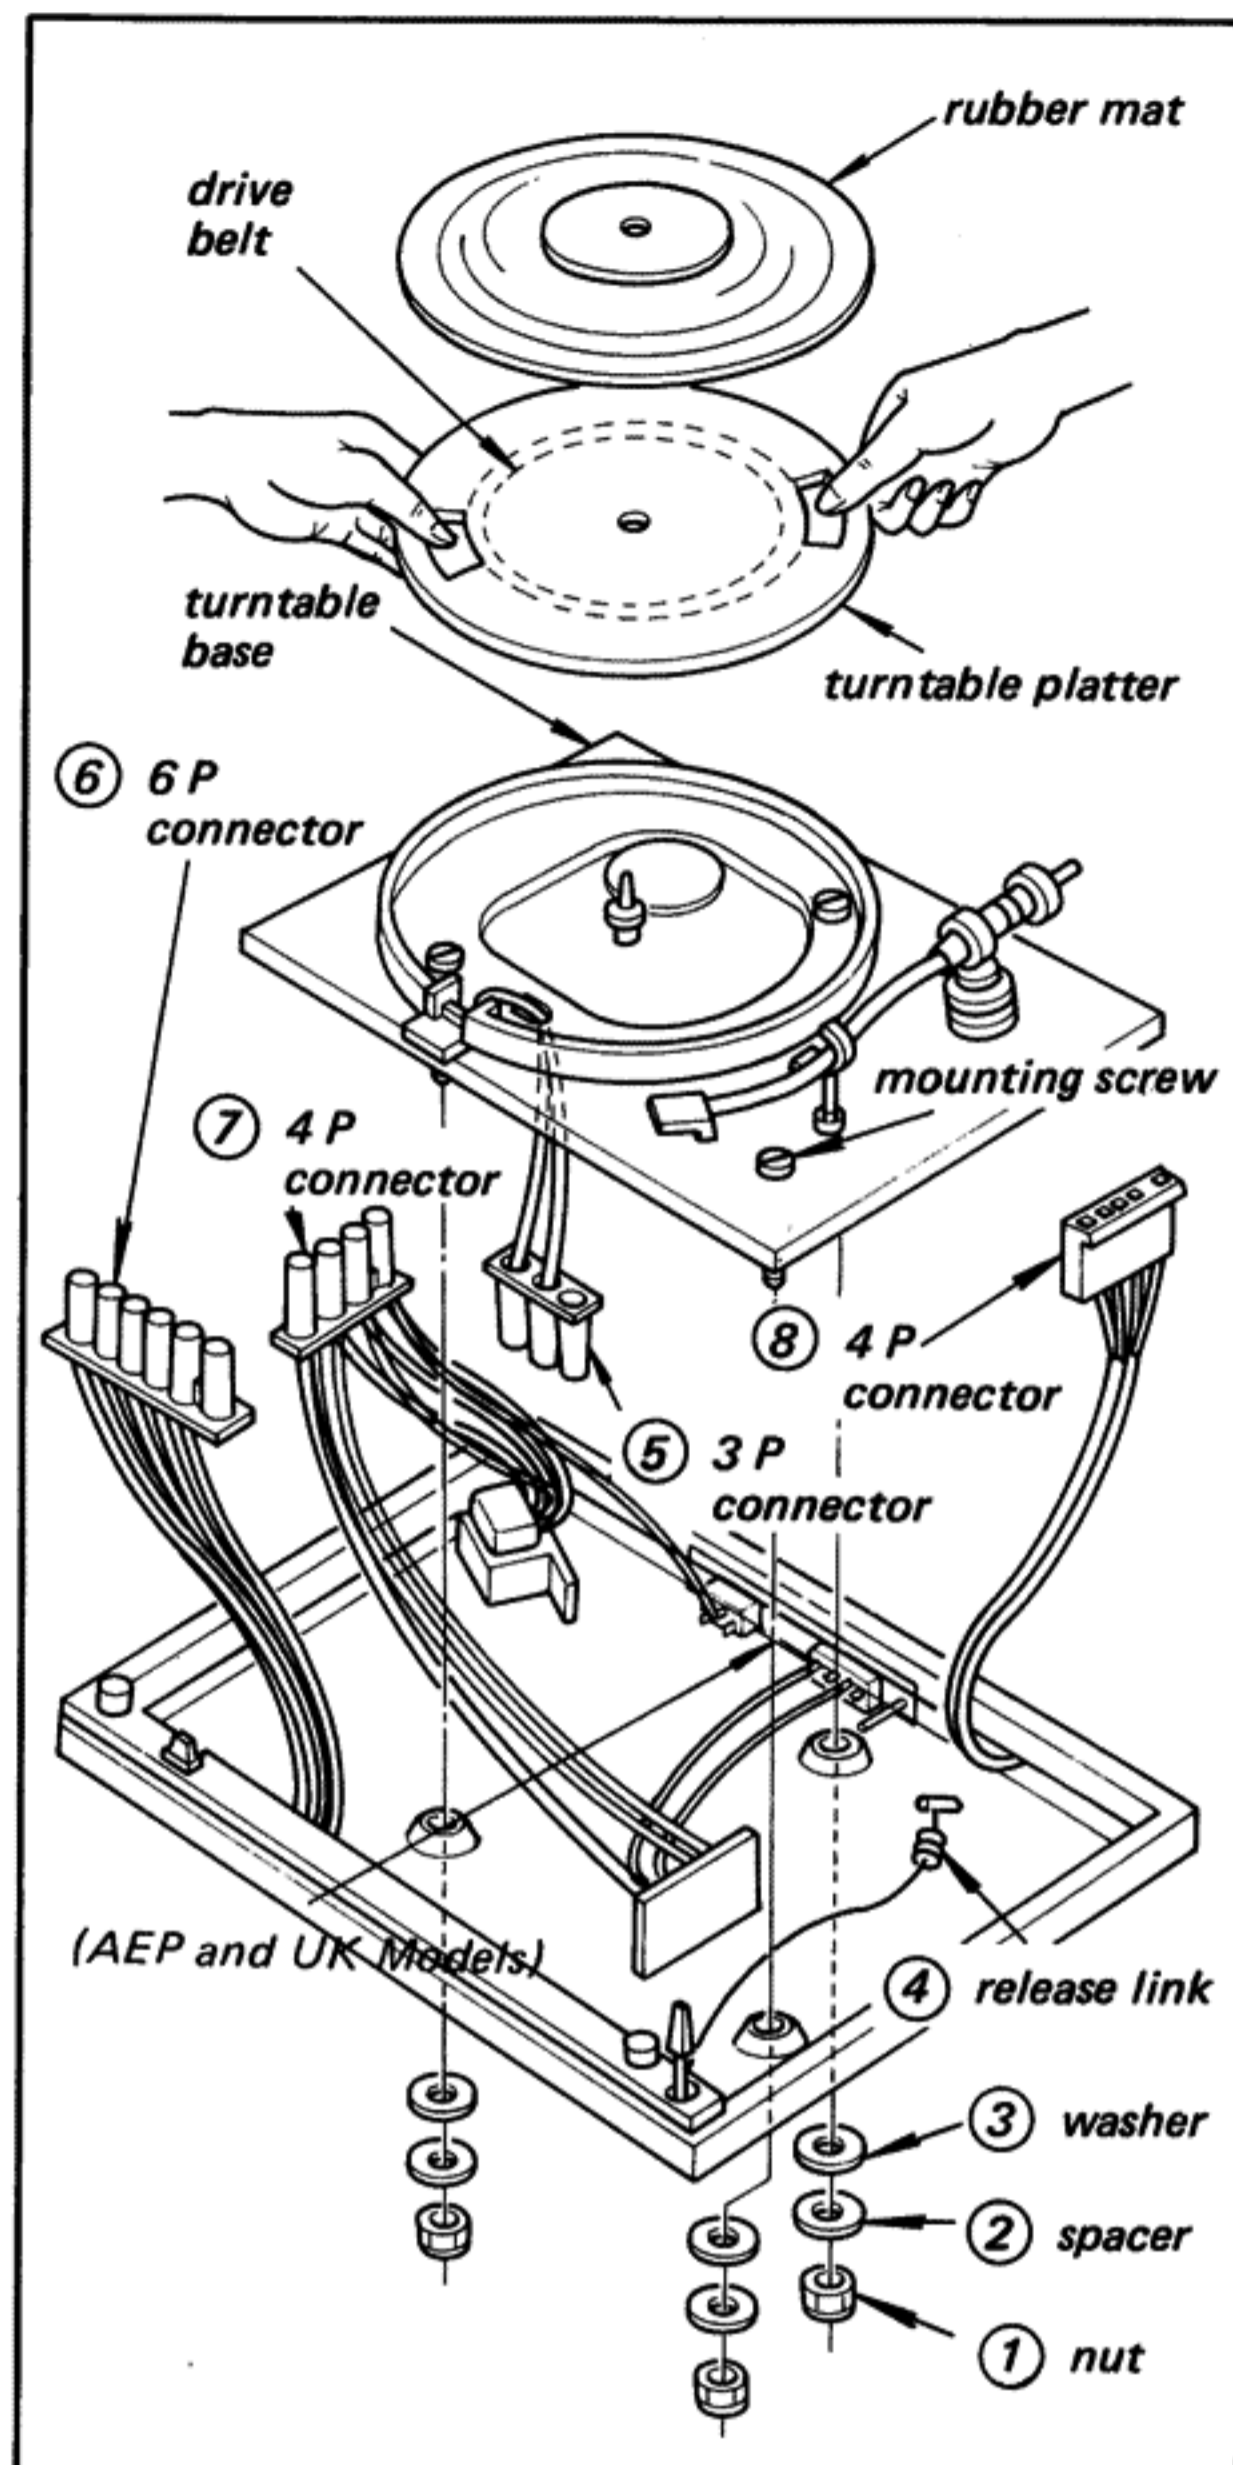

Fig. 2-2. Turntable removal
3. Insert your both thumbs into the two holes of the turntable platter as shown in Fig. 2-2.
2. Remove the nut ①, spacer ② and washer ③ securing the turntable base to the wooden case as shown in Fig. 2-2.
3. Lift the turntable base carefully and remove the release link ④ shown in Fig. 2-2.
4. Disconnect the four connectors ⑤, ⑥, ⑦, ⑧ shown in Fig. 2-2. This frees the turntable base.